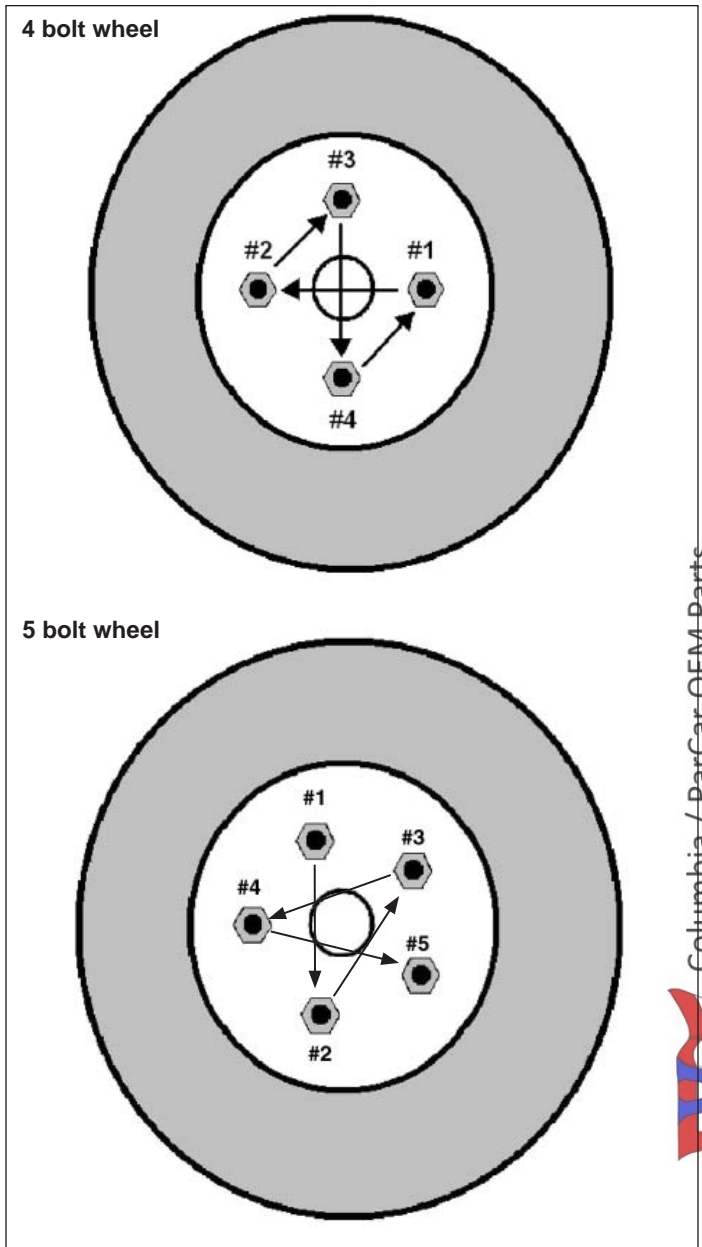

Figure 6-1. Lug Nut Tightening Pattern
2. Tighten lug nuts by hand and wrench until snug using a criss-cross pattern (Figure 6-1).